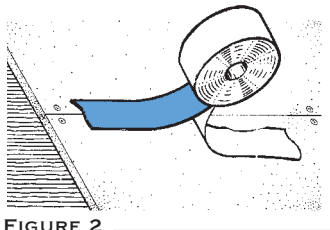

FIGURE 2
3. Remove release liner while pressing flashing firmly along the joint. (Figure 2)